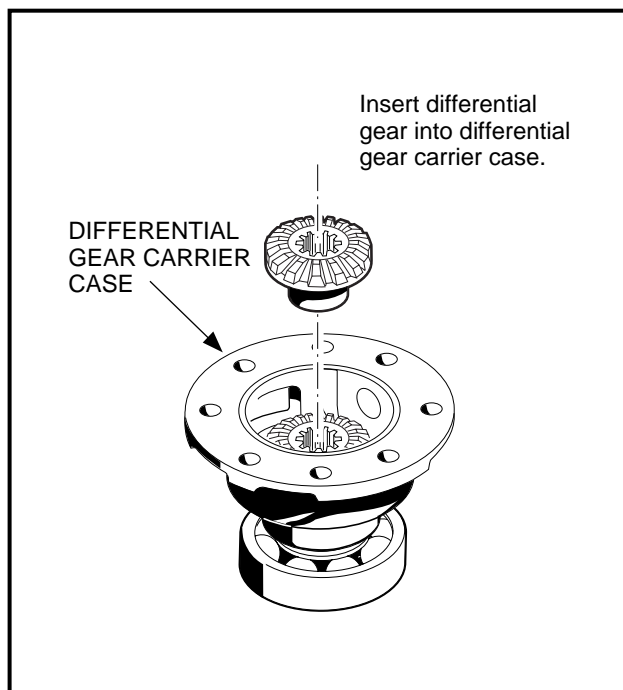

Figure 16-60 Differential Gear
2. Install differential gear (91) into carrier case (84) (**Figure 16-5, Page 16-4**) as shown (**Figure 16-60, Page 16-27**).